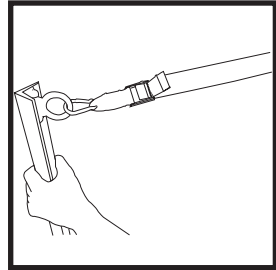

Fig. 8
14. Fasten the corners of the tent to the anchors with loosened up to the maximum tensioning straps (Fig. 8).